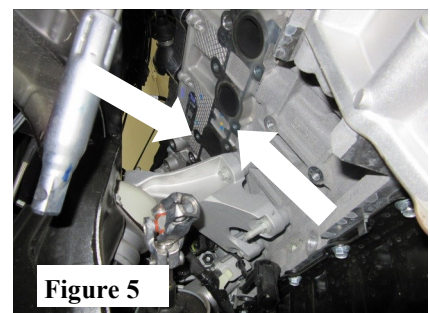

Figure 5
5. Remove all eight mounting studs from the engine using a 5mm socket or appropriate size star socket. Clean threads using a M10 x 1.25 tap. (See Fig. 5)